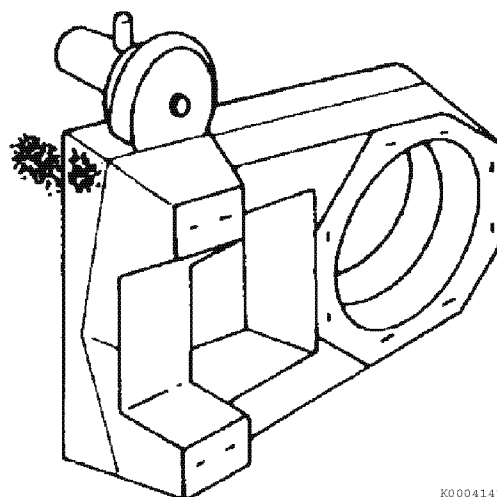

Figure 13
5. Remove the engine bed and cut along the line (Figure 13).